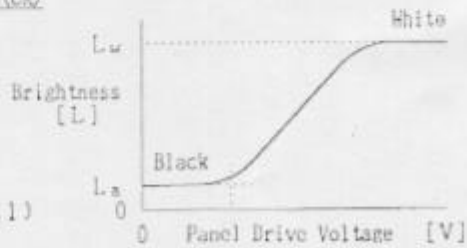

Figure 9-3 Voltage-Brightness Characteristic
Determined by Formula(1) based on Figure 9-3 Voltage-Brightness Characteristics